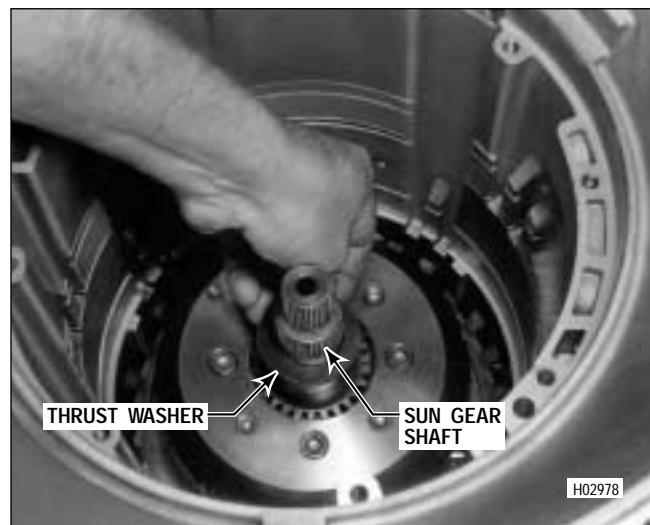

Figure 7-7. Installing Sun Gear Shaft Assembly and Thrust Washer
(4) Install the sun gear shaft assembly (long splines first) and the front sun gear thrust washer (Figure 7-7).